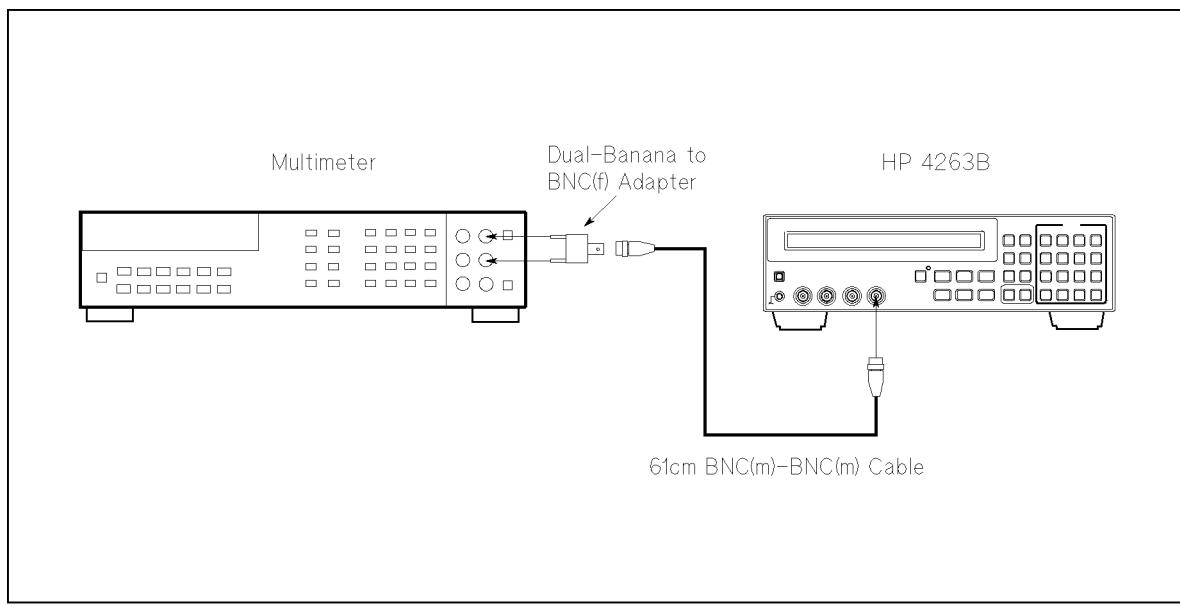

Figure 9-2. Test Signal Level Accuracy Test Setup
2. Set up the equipment as shown in Figure 9-2.